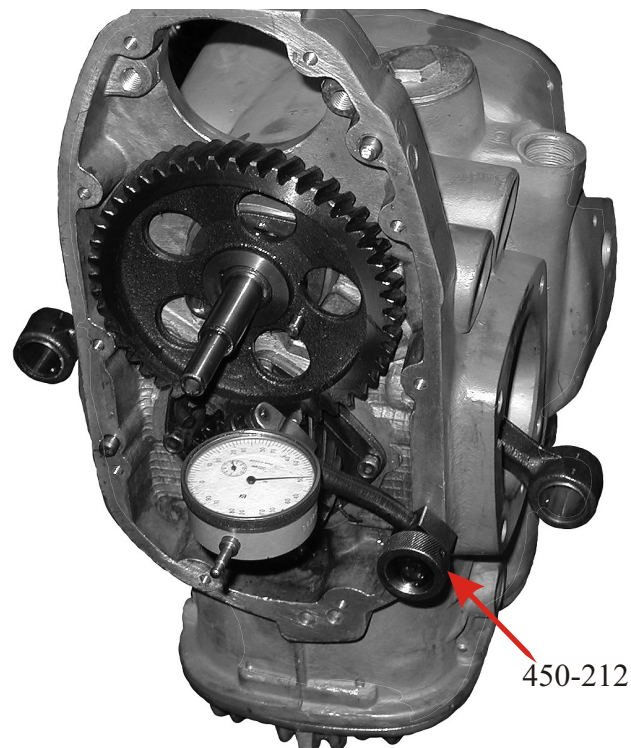

Fig. 9
- set up the face runout indicator 450-212 and fasten it on the right-hand threaded hole. Measure the endplay, and then remove the tool (Fig. 9).